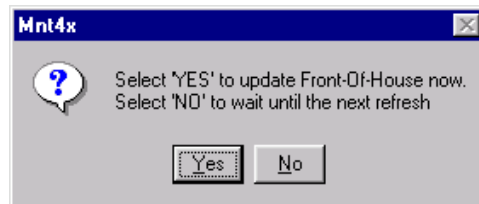

Figure 4-5 Update FOH Now Message Box
4. Re-swipe the employee's **mag card** for confirmation. The Update FOH Now message box displays as shown in Figure 4-5: